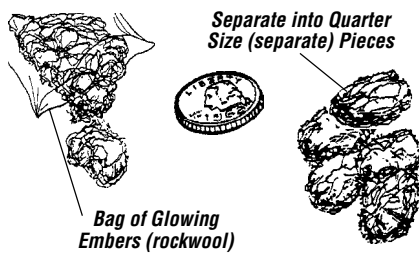

Figure 77
5. **Placement of Glowing Embers** - Separate the Embers (rockwool) into pieces about the size of a quarter (see **Figure 77**). Keep the pieces fluffed up, not matted. Distribute these pieces over the surface of the burner, as shown in **Figure 78**. Do not use more than is necessary. Ensure that the main burner ports remain uncovered by the ember material.